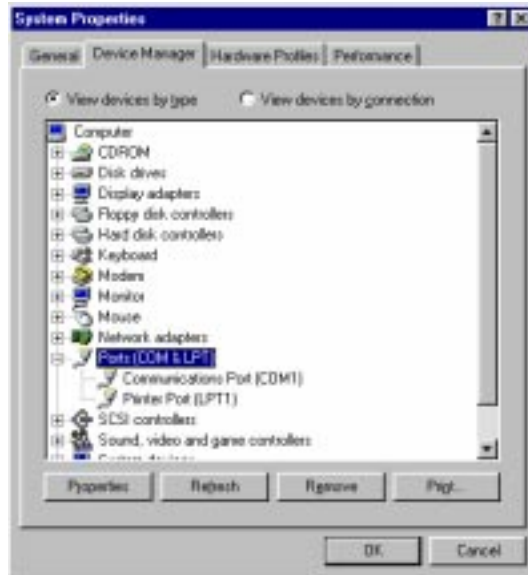

Figure 4.8 System Properties
- Double click on Ports (Com & LPT), you will see figure 4.8. RS-232 is on port 1 as shown on figure 4.8. Your RS-232 port may be on a different port number.